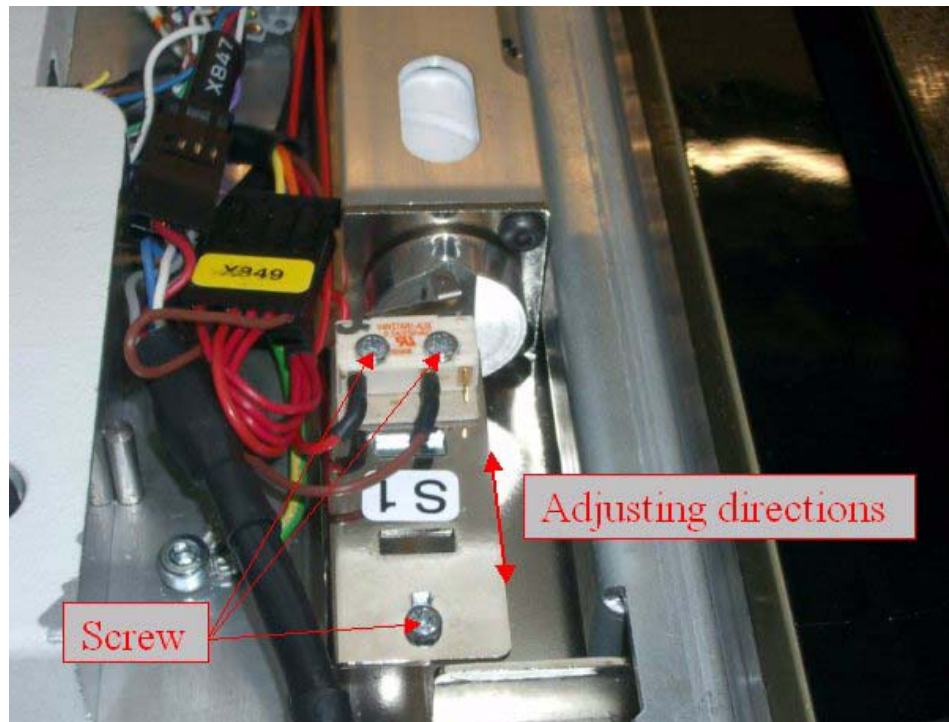

Fig. 4 Adjust grid switch S1
The switch S1, see Fig. 4, on the detector table disables the high voltage when the grid is in the turning point. The switch must be correctly adjusted otherwise the high voltage will be active when the grid is standing still.
2. Loosen the three screws. Now it is possible to adjust the grid switch (S1) alongside the grid (see Fig. 4).